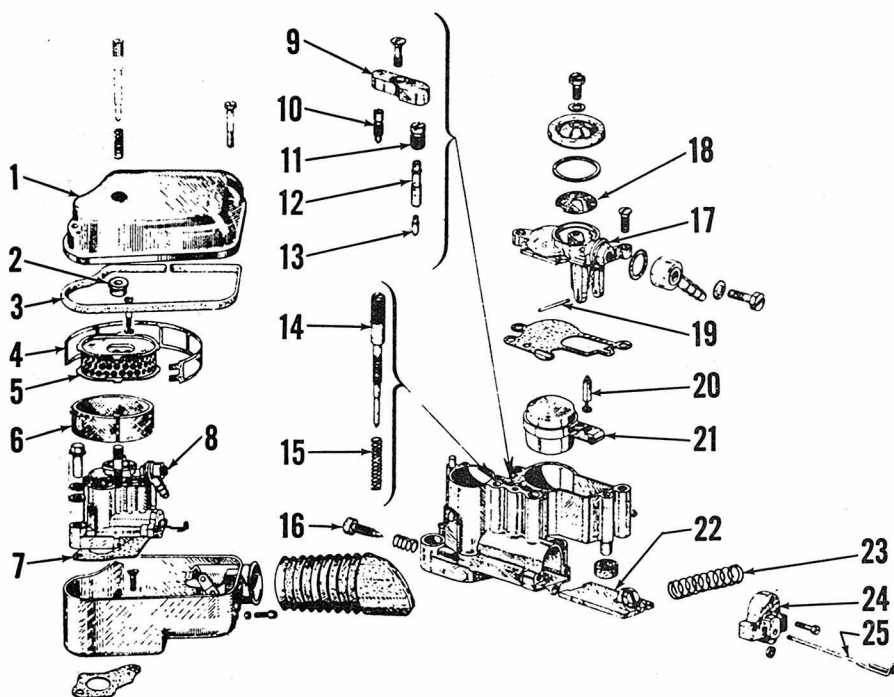

Fig. VE2-3—Carburetor and air cleaner typical of all models.
**CARBURETOR.** Idle mixture is adjusted by rotating the knurled screw (16—Fig. VE2-3). The high speed (power) range mixture is controlled by orifice size of the main jet (10). Float is vented inside the carburetor body.